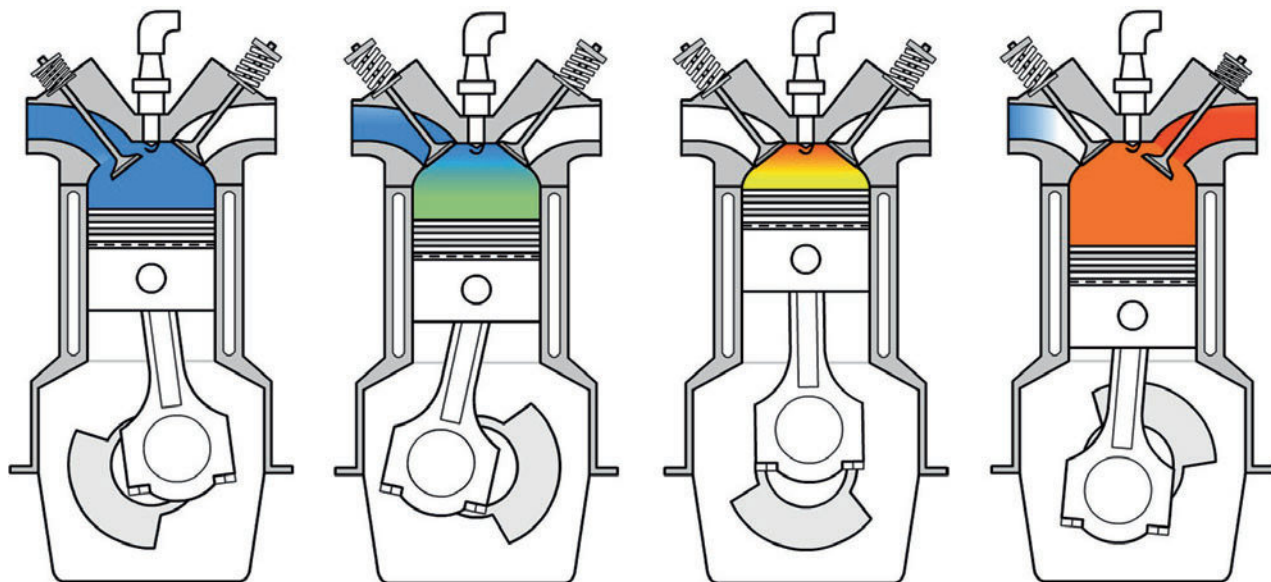

Figure 6.2 Four-stroke cycle: induction, compression, power and exhaust
When the term 'stroke' is used, it means the movement of a piston from top dead centre (TDC) to bottom dead centre (BDC) or the other way round. The following table explains the spark ignition (SI) and compression ignition (CI) four-stroke cycles – for revision purposes. Figure 6.2 shows the SI cycle.